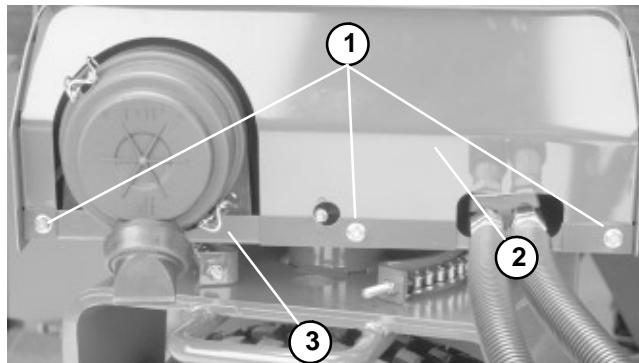
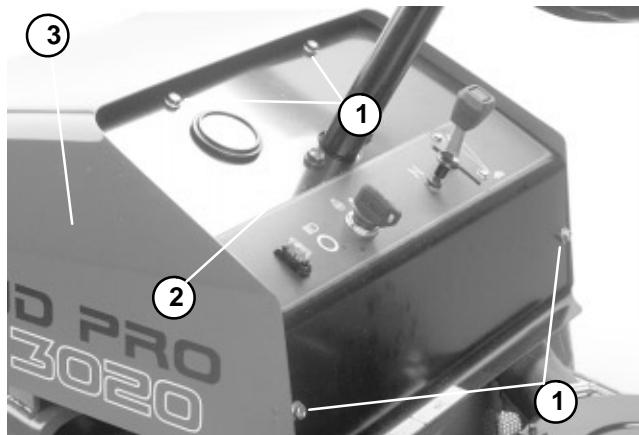

Figure 11
Figure 12
3. On the **SP 2020/3020** remove three hex flange head screws securing the hood to the front shield (Fig. 11). Remove four cap screws securing the dash panel to the hood (Fig. 12). Remove hood from the machine.
- On the **SP 2020/3020**, position hood to the dash panel and front shield. Secure hood to front shield with three hex flange head screws (Fig. 11). Secure dash panel to hood with four cap screws (Fig. 12).
- On the **SP 2020/3020** remove three hex flange head screws securing the hood to the front shield (Fig. 11). Remove four cap screws securing the dash panel to the hood (Fig. 12). Remove hood from the machine.
- Position hood to the dash panel and front shield. Secure hood to front shield with three hex flange head screws (Fig. 11). Secure dash panel to hood with four cap screws (Fig. 12).